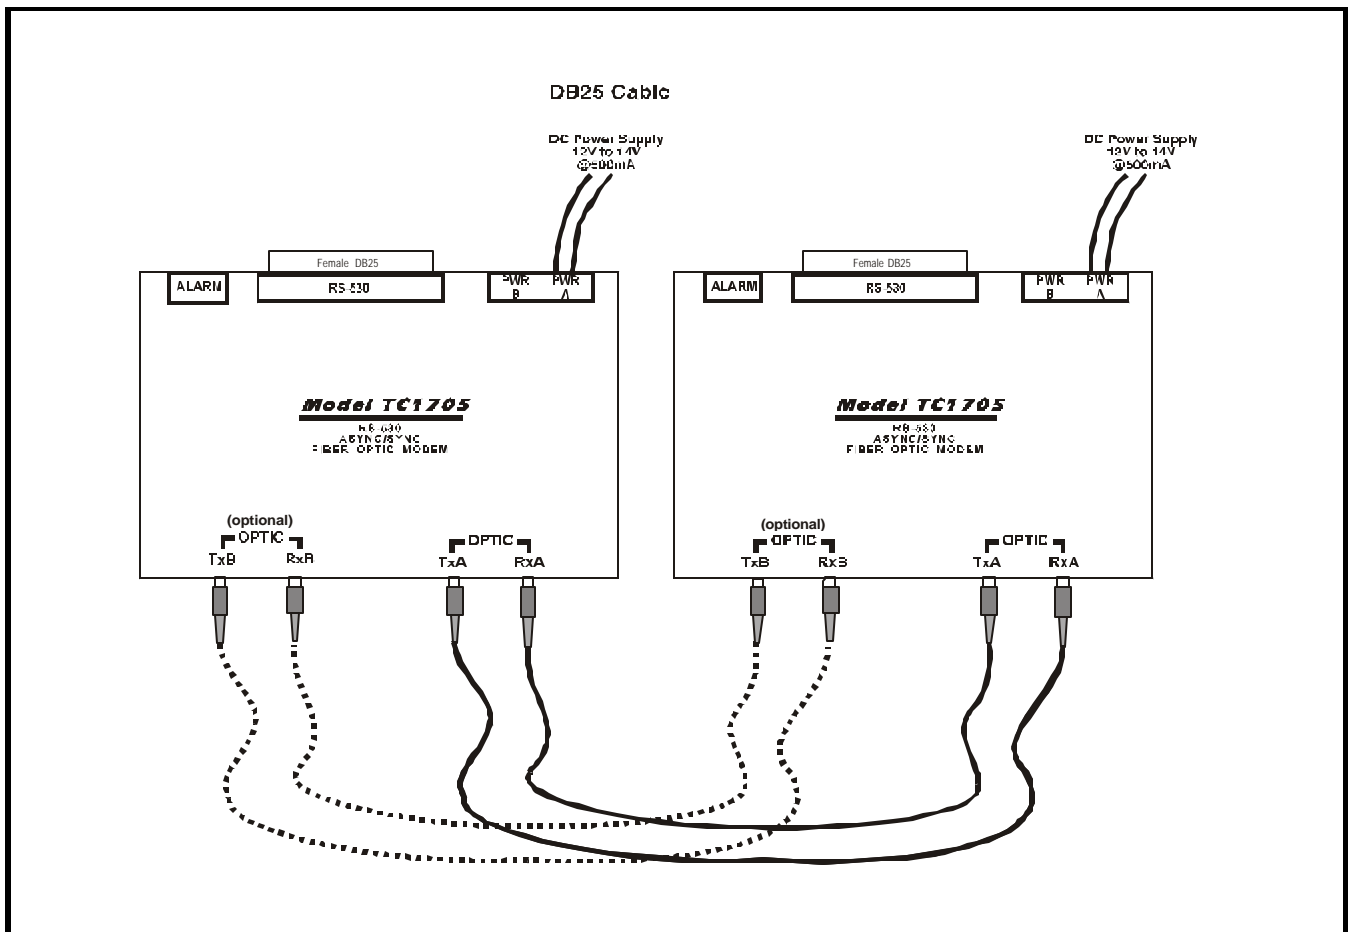

Figure 12. Signal Generator Bench Test Connection Diagram
- Setup the bench test as shown in figure 12.